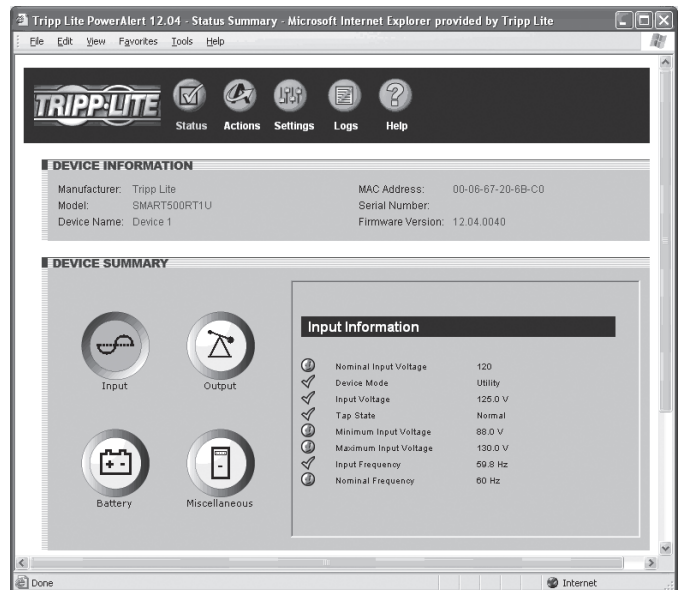

Figure 3-3: Status Page
4. After you enter the user name and password, the status page (Figure 3-3) will appear in the browser window.
Click the "Status" menu button to display the status page (Figure 3-3), which displays device information, device summary and alarm status. Four additional buttons within the window allow you to select information categories: input information, output information, battery information and miscellaneous information such as additional device information and system information. When you activate an information category, the button for that category changes from white to blue. The status of each information item is indicated by the icon next to the item.